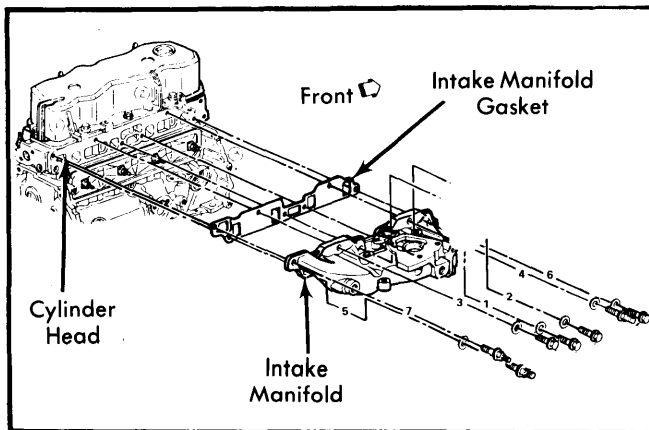

Fig. 1 Intake Manifold Tightening Sequence
2) Torque manifold-to-cylinder head bolts using torque sequence shown in Fig. 1. Reverse removal procedure to complete installation